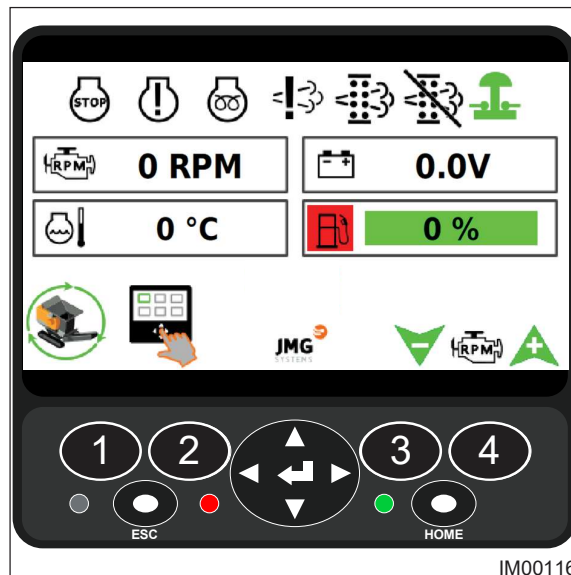

Fig: 7.11 - Home Screen
9. On the home screen, press the Menu Select button (Item 2, Fig: 7.11).